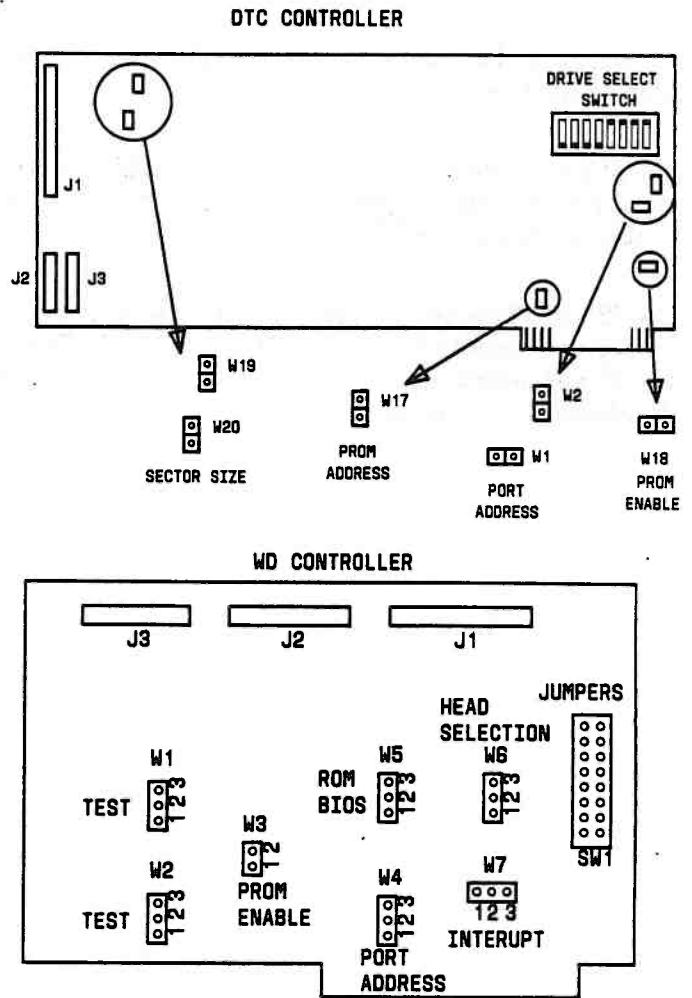

Figure 3-38. Two Types of Hard Disk Controller Boards With DIP Switch and Jumpers
10. Verify jumpers are present on W1 and W2 (Figure 3-38). This defines the HDU Controller port address as 320.
11. Verify a jumper is present on W17 and is not present on W18 (Figure 3-38). A jumper on W17 defines the starting address for the HDU Controller EPROM at C800:0000, and a jumper on W18 enables the HDU Controller EPROM. The HDU Controller EPROM must not be present.
12. Verify that jumper W20 has a jumper present and W19 does not (Figure 3-38). This sets the HDU sector size at 512 KB.
13. Locate the Drive Select Switch on the HDU Controller (Figure 3-38).
16. Verify that jumpers are present on W1, W2, W4, and W6 on the WD Controller (Figure 3-38). **ROM BIOS 1.43 or higher are required for the WD controller.**